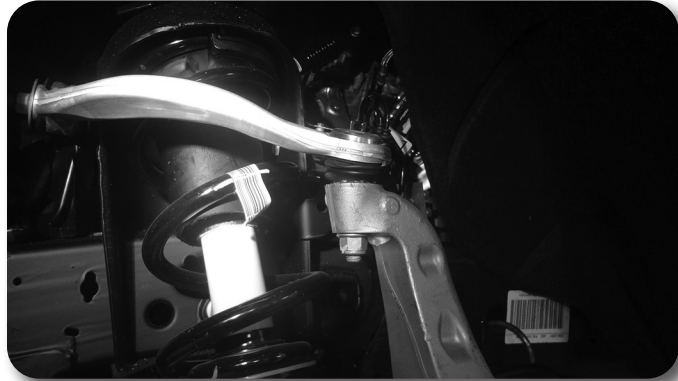

Figure 9
13. Remove the upper and lower ball joint nuts and thread back on by hand a couple of turns. **Aluminum Knuckles:** Avoid striking the knuckle to release the taper, recommended to use a ball joint separator tool to release the taper. If you do resort to hitting the knuckle avoid re-use and discard. Avoid damage to the ball joint boots during installation. Fig. 9 & 10